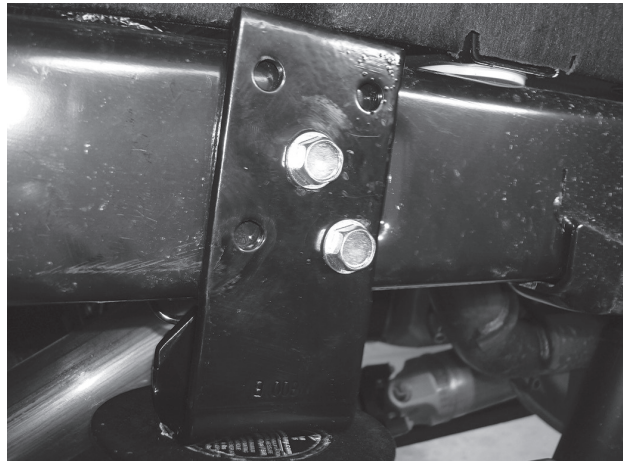

fig. 10
4. Push the upper bracket (A) against the frame and make sure the short leg of the upper bracket is in contact with the bottom of the frame rail (fig. 10).